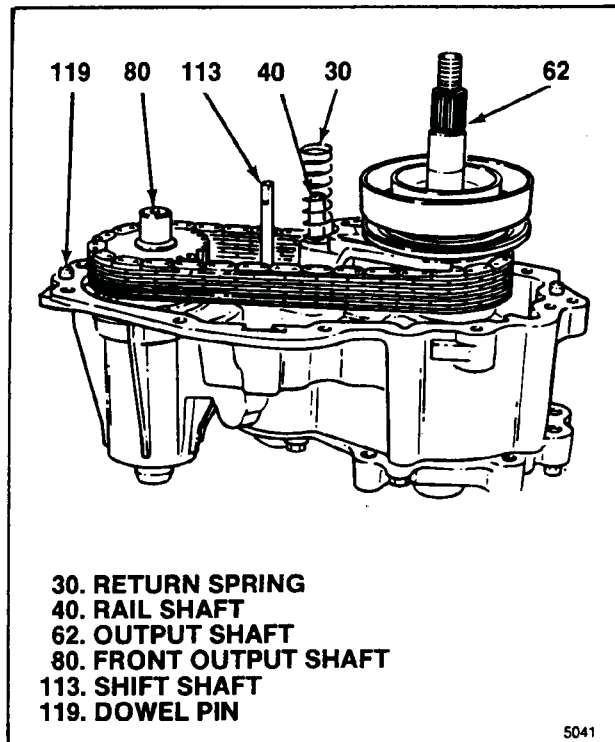

Figure 5-21. Parts To Be Aligned With Cover
d. Install cover assembly (22) on transfer case (121). All of the following alignment conditions must be met for the cover assembly to seat on transfer case properly (see figure 5-21):